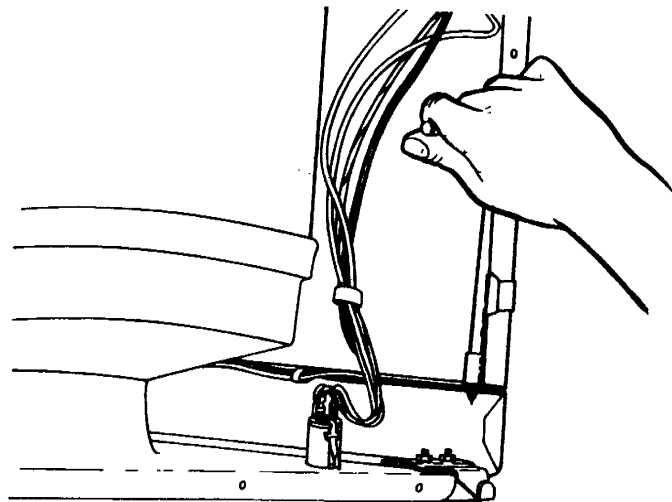

Figure 4 — Front Removal
3. Then remove the screws holding the front to the cabinet, Figure 4.